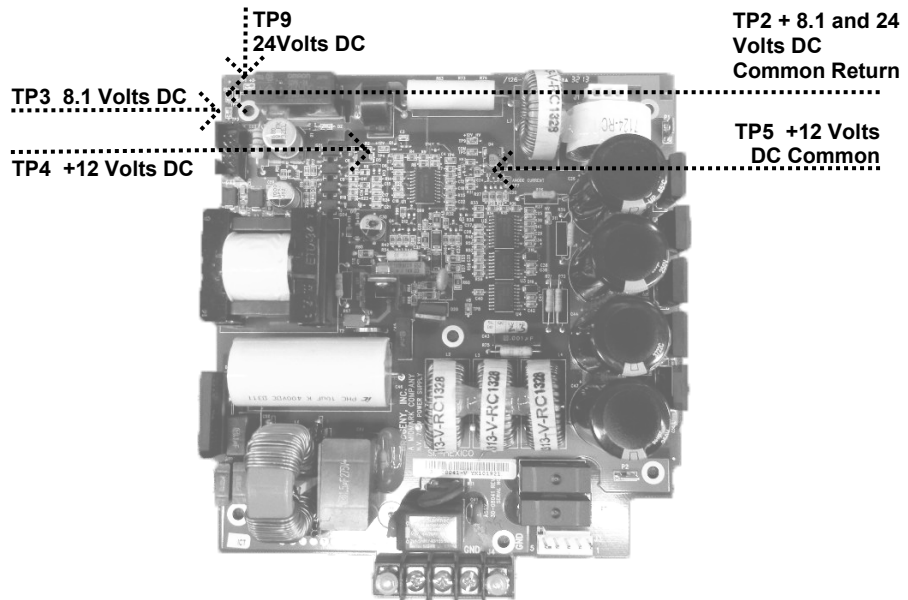

Figure 65
2. On the Power Supply Board, use TP2 as a common test point to check TP1 +24 volts DC and TP3 8.1 volts DC. Then use TP5 as the common return to check TP4 for the presence of +12 volts DC, as shown in *Figure 65*. Should any of these voltages not be present, replace the Power Supply Board. If these voltages are correct, next check voltages on the Logic Board.